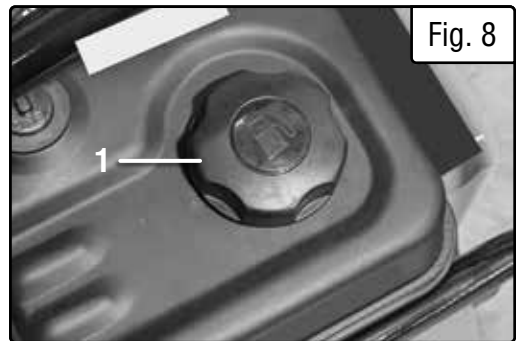

Fig. 8
2. Unscrew the fuel cap (Fig. 8 - 1) and set aside.